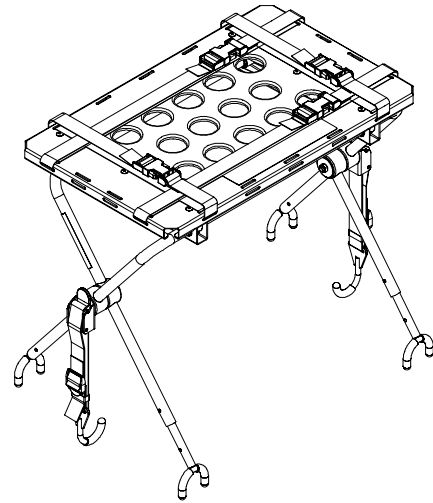

Figure 30 – Open defibrillator platform legs
2. Open and expand the defibrillator platform legs (Figure 30).